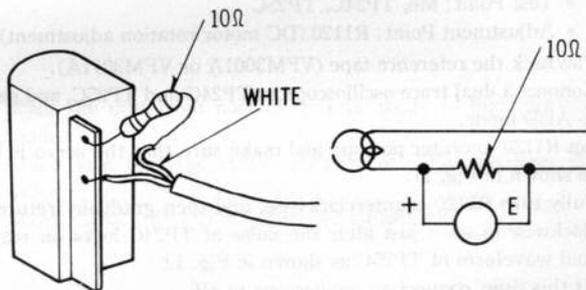

Fig. 16
1. Connect a  $10\Omega$  resistor in series with the audio head terminal as shown in Fig. 16.